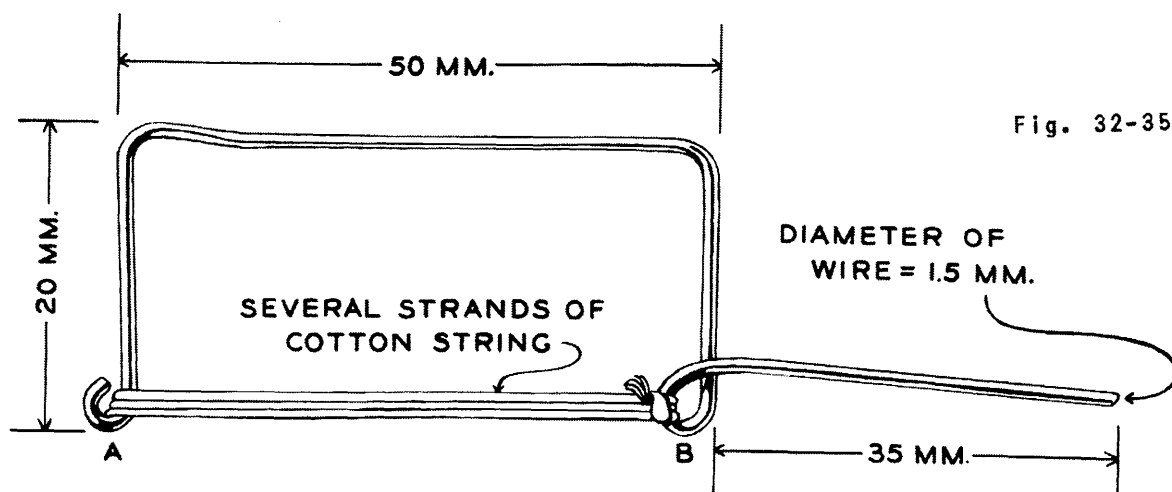
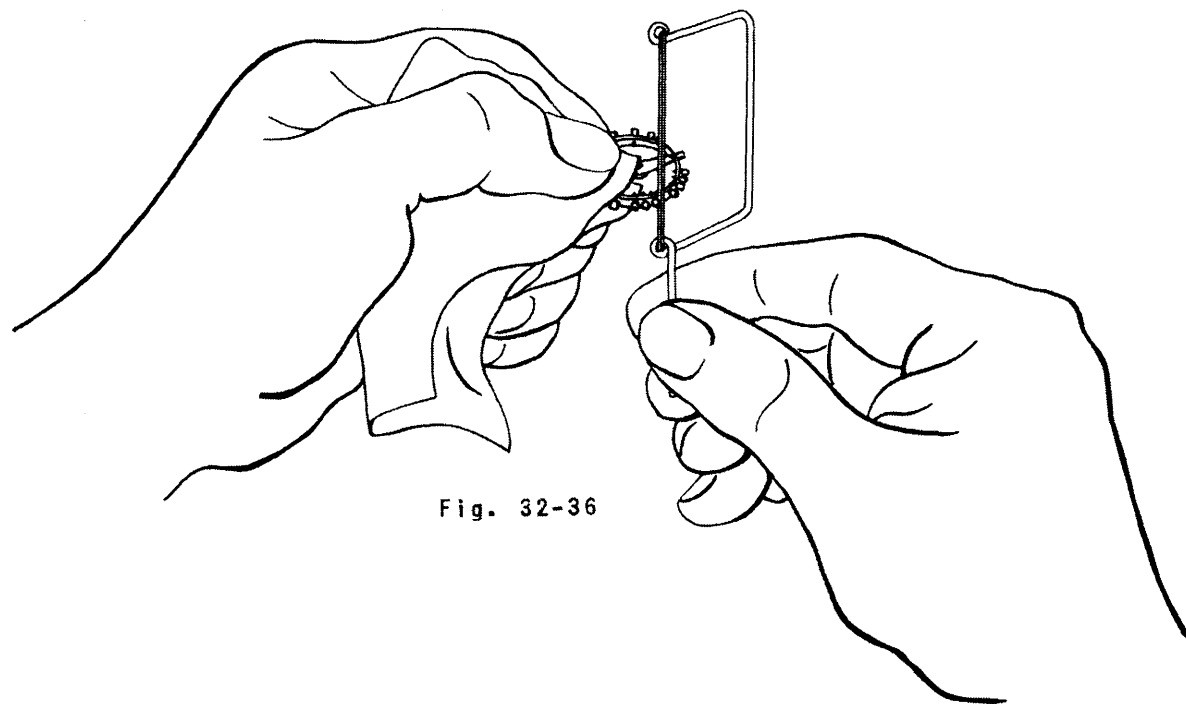

Fig. 32-35
Fig. 32-36
27. Polish balance wheel rim if necessary. To polish between the screws of a balance wheel, make a small bow of brass wire. Approximate dimensions are given in figure 32-35. Wind two or three loops of cotton store string from A to B, keeping it taut. Wet the string with alcohol and rub across a stick of rouge. Balance screws and rim of wheel are then polished as in figure 32-36. Brush balance with cleaning solution to remove all rouge.